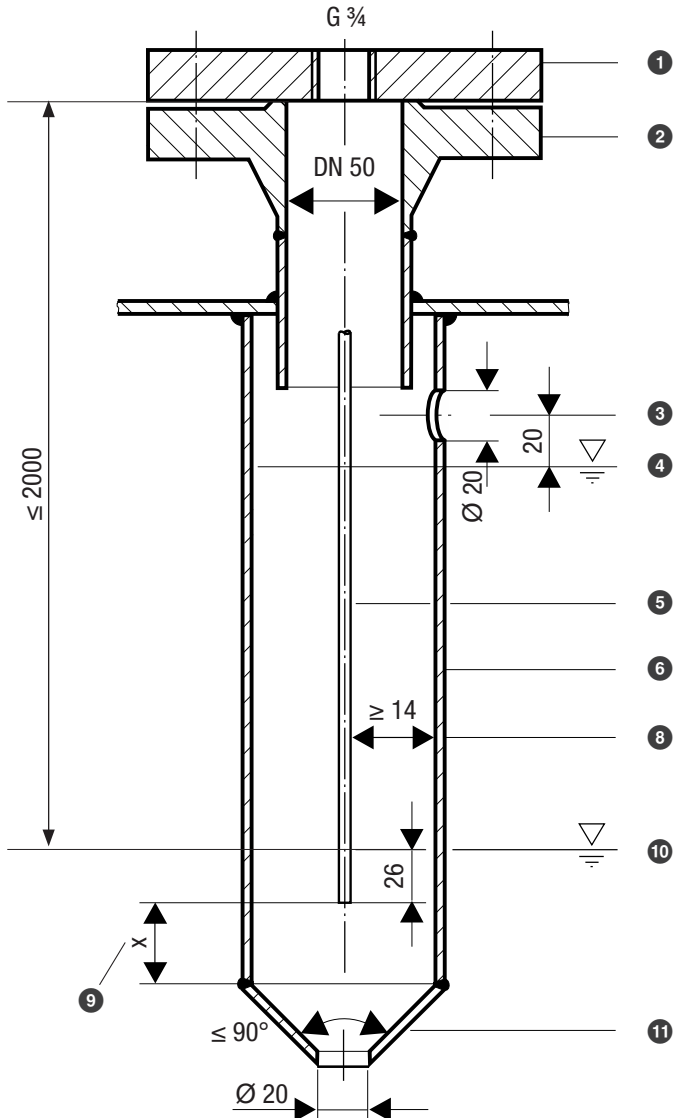
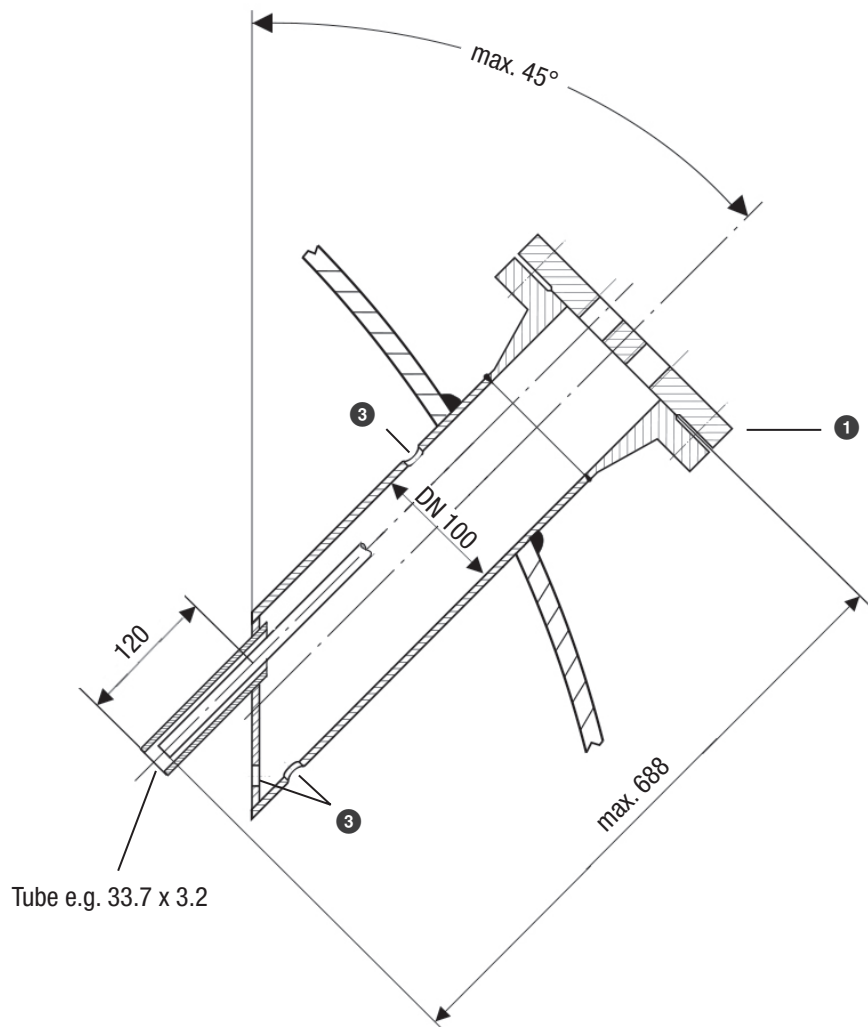

Fig. 12
Fig. 16
- Pay attention to the minimum clearances when installing the level electrode, see installation examples Fig. 12 to Fig. 16.
Installation example with dimensions, see Fig. 12, page 30
Key Fig. 12 to Fig. 16
- ① Fig. 12, 13: Flange (PN 40, DN 50) EN 1092-1 (single electrode)